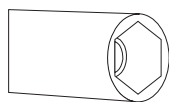

Figure 4
2. For injector change, use a screwdriver whose edge is as the Figure 4.